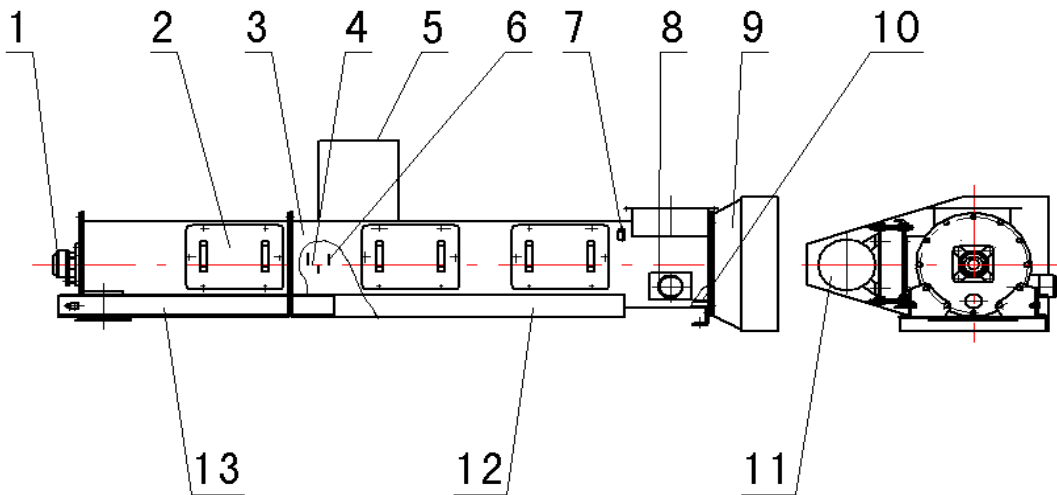

Figure 5 Conditioner
3.3 Conditioner (See Figure 5)